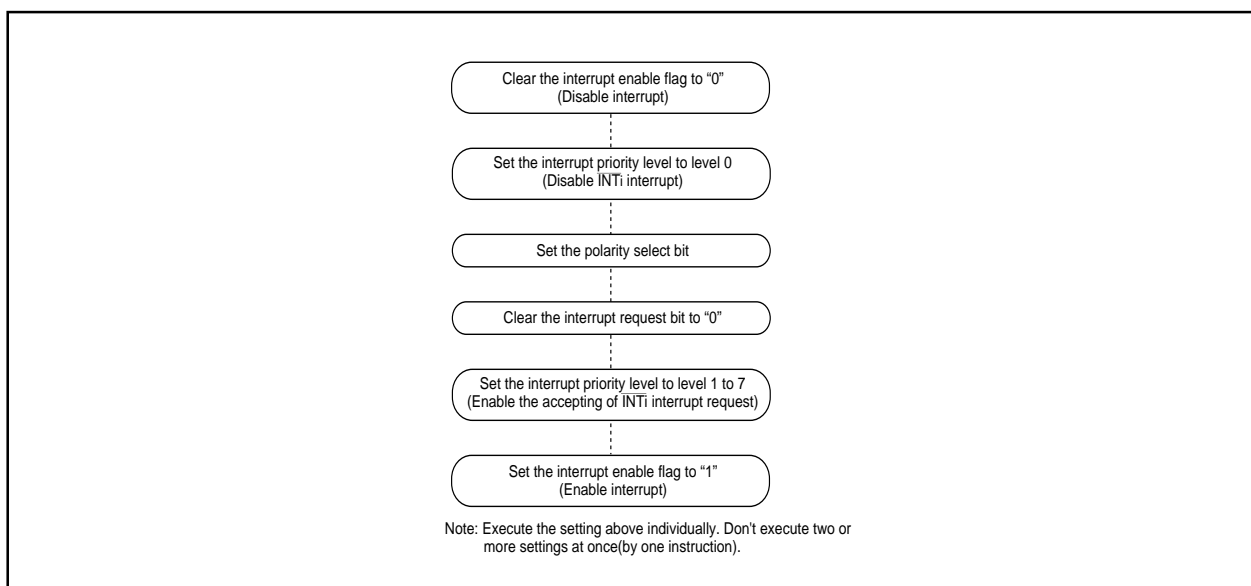

Figure 1.11.13. Switching condition of INT interrupt request
- When the polarity of the  $\overline{\text{INT0}}$  to  $\overline{\text{INT5}}$  pins is changed, the interrupt request bit is sometimes set to "1". After changing the polarity, set the interrupt request bit to "0". Figure 1.11.13 shows the procedure for changing the  $\overline{\text{INT}}$  interrupt generate factor.